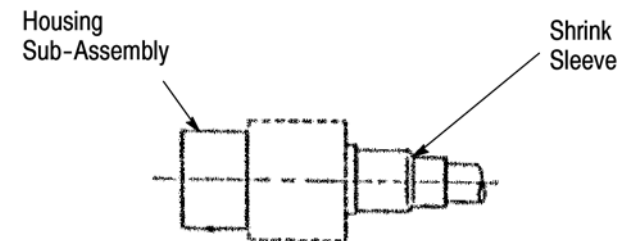

Figure 6
1. Position the shrink sleeve over the outer sleeve as shown in Figure 6.